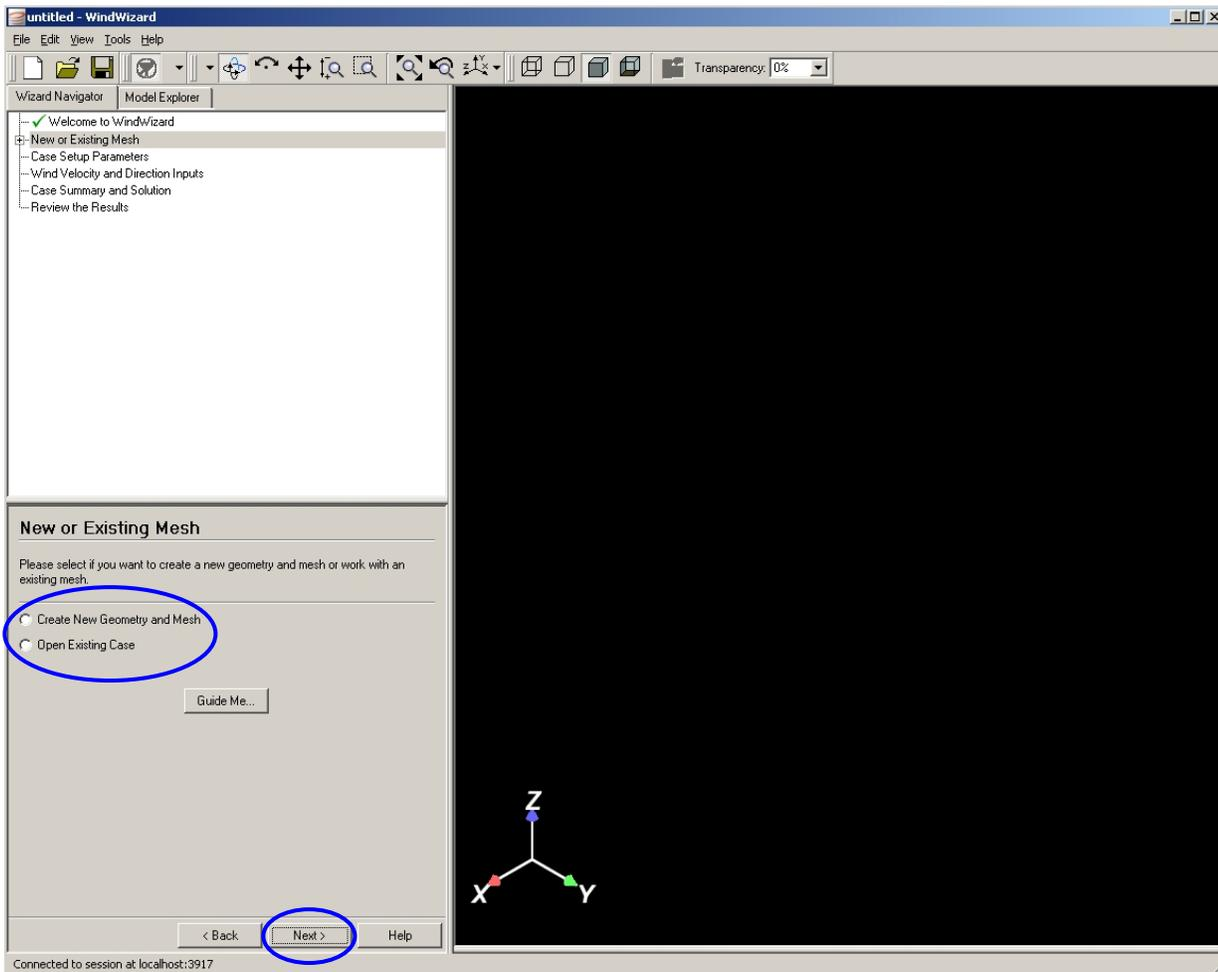

Figure 2. WindWizard mesh selection window.
2. Select **Create New Geometry and Mesh** or if you are using an existing mesh (i.e., if you previously ran WindWizard) select **Open Existing Case**, click **Next** (Figure 2), click **Browse** to select the existing mesh, and then **Read Case**. Additional information can be obtained by selecting the **Guide Me...** button.